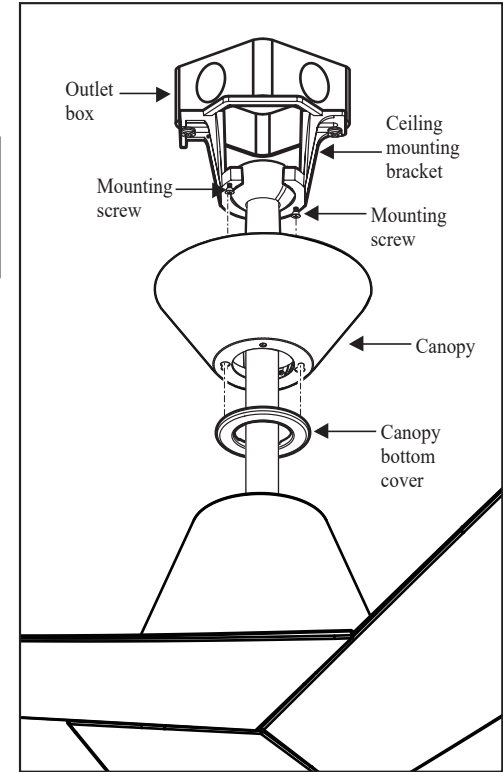

Figure 12
1. Make sure connections are neatly tucked into the ceiling outlet box. (Figure 12)
2. Slide the canopy up to the mounting bracket and place the key holes on the canopy over the loose canopy mounting screws on the mounting bracket. Turn the canopy clockwise until it locks in place at the narrow section of the key holes,, and tighten the two canopy mounting screws. (Figure 12)
3. Attach the canopy bottom cover to the canopy by inserting the screw heads into the key slots in the canopy bottom cover and rotating it clockwise. (Figure 12)